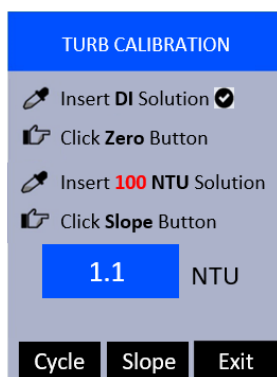

Figure 24.
5. Press **Zero** (**<**) to start zero calibration. If the zero calibration succeeds, a checkmark (**✓**) will appear (Figure 24). Zero calibration complete. Otherwise, a warning message is displayed.
6. Press **Cycle** (**<**) to cycle to the desired turbidity calibration standard, for example, 100 NTU (Figure 24). The standard conductivity selections are 20, 50, and 100 NTU.